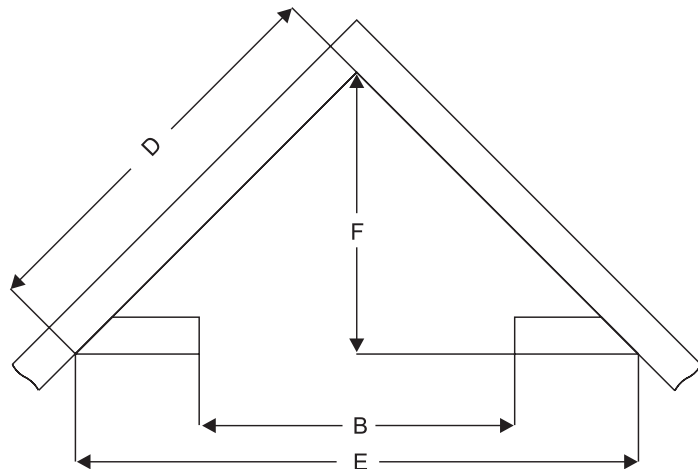

Figure 48 - Rough Opening for Installing in Corner
- Use dimensions shown in **Figure 48** for corner rough opening. Be sure to provide gas line and electrical power for fireplace assembly.